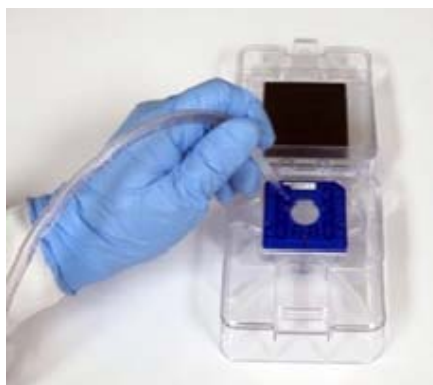

Figure 3. Using a vacuum to aspirate the chip wells is more effective than using a pipette.
- 2 Use a pipette tip attached to a vacuum line to thoroughly aspirate all fluid from the chip wells (see Figure 3). For more details on how to set up a vacuum line see page 34.